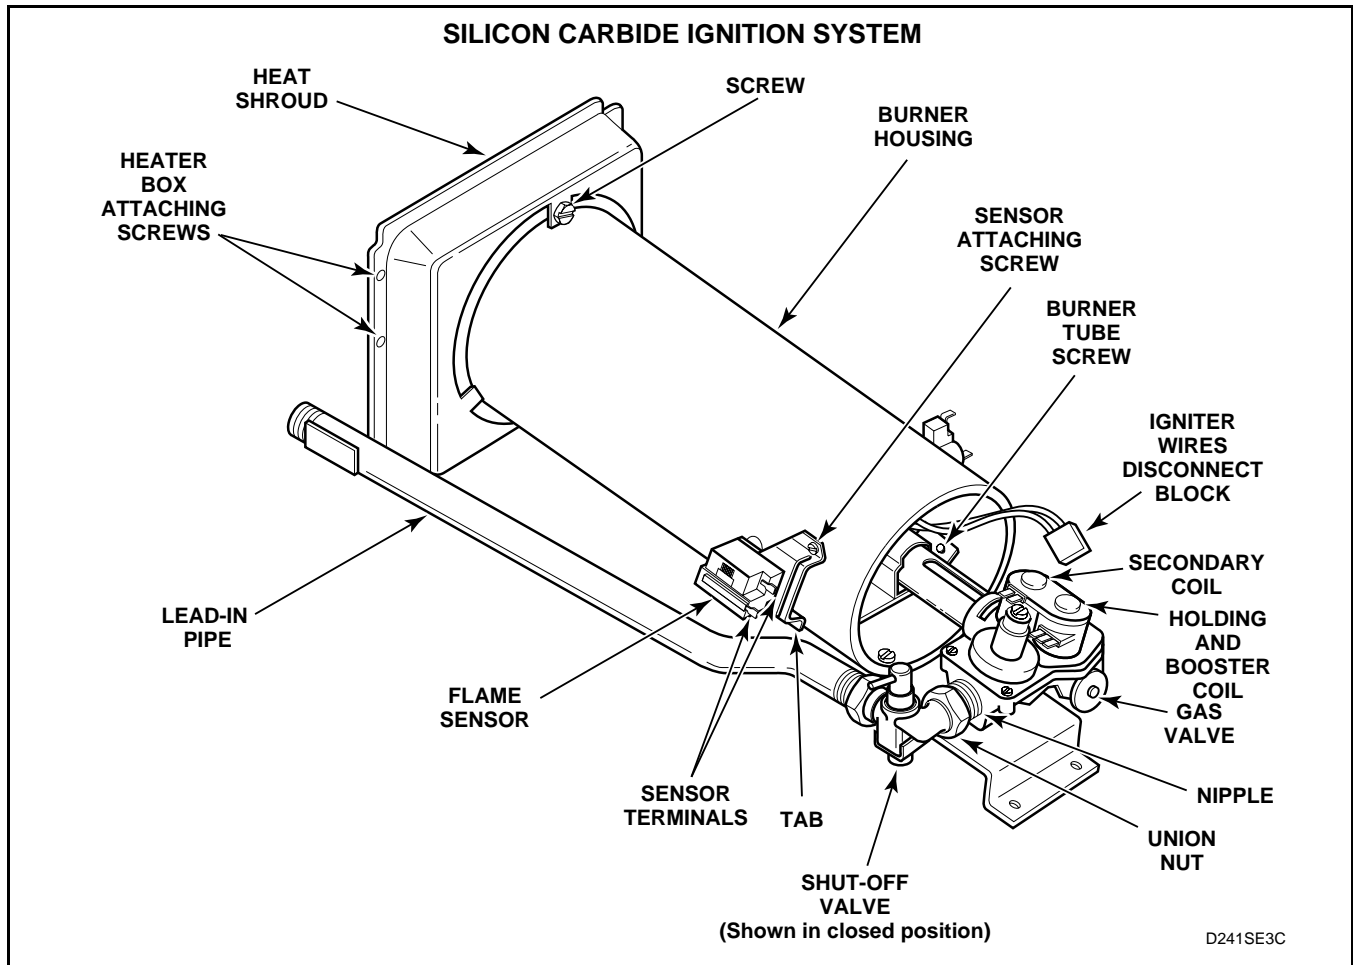

Figure 14
- (4.) **Silicon Carbide Ignition:** Disconnect igniter wires at disconnect blocks, sensor wires from flame sensor terminals, and wires from gas valve coils at the quick disconnect blocks. See Figure 14.
- (5.) Disconnect gas shut-off valve from gas valve at the union nut. See Figure 14.
- (6.) Remove three screws holding valve and mounting bracket to base. See Figure 14.
- (7.) Lift gas valve and mounting bracket from base. See Figure 14.
- Silicon Carbide Ignition:** Disconnect igniter wires at disconnect blocks, sensor wires from flame sensor terminals, and wires from gas valve coils at the quick disconnect blocks. See *Figure 14*.